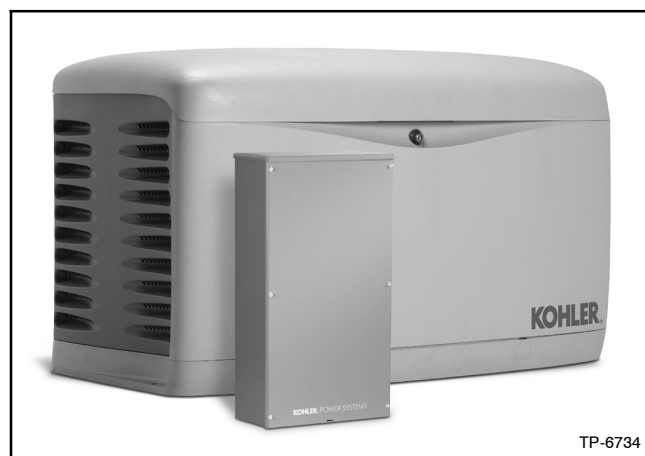

Figure 1 RES/RESL Generator Set and Optional Model RRT Transfer Switch
This manual provides operation and maintenance instructions for residential/commercial model 14/20RES and RESL generator sets equipped with Residential Digital Control (RDC) or Digital Control (DC) generator set/transfer switch controllers. The RDC and DC controllers control the generator set and the optional Model RRT transfer switch. See Figure 1.